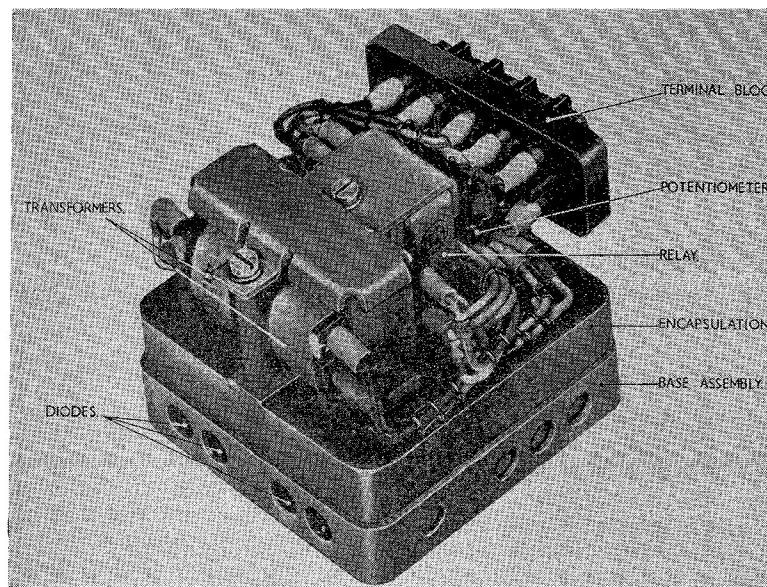

Fig. 2. View of unit with cover removed
3. The unit is divided into three sections, see view of unit with cover removed, fig. 2.